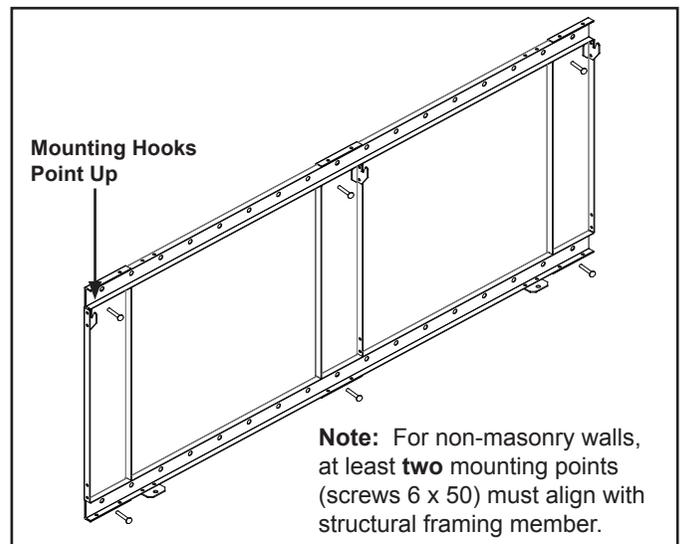
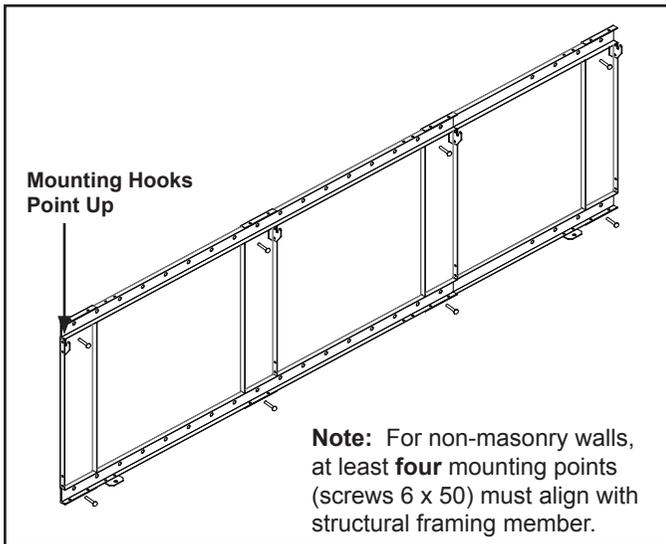
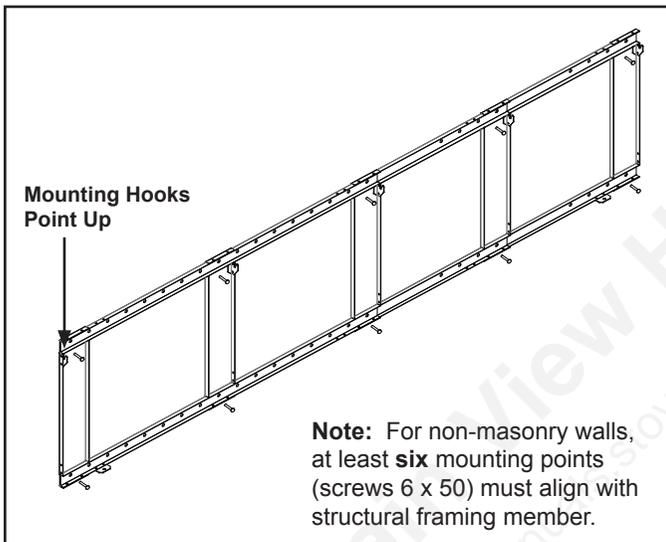

Figure 4.10 (SF-WM58) Bracket Attachment
Figure 4.11 (SF-WM70) Bracket Attachment
Figure 4.12 (SF-WM94) Bracket Attachment
- Orientate the bracket so that its mounting hooks are pointing up as shown in Figure 4.10 and 4.13.
- Orientate the bracket so that its mounting hooks are pointing up as shown in Figure 4.11 and 4.13.
- Orientate the bracket so that its mounting hooks are pointing up as shown in Figure 4.12 and 4.13.
- With mounting hooks pointed up, attach the bracket to the masonry anchors with 6 x 50 screws. See Figure 4.10 (SF-WM58), Figure 4.11 (SF-WM70) or Figure 4.12 (SF-WM94).